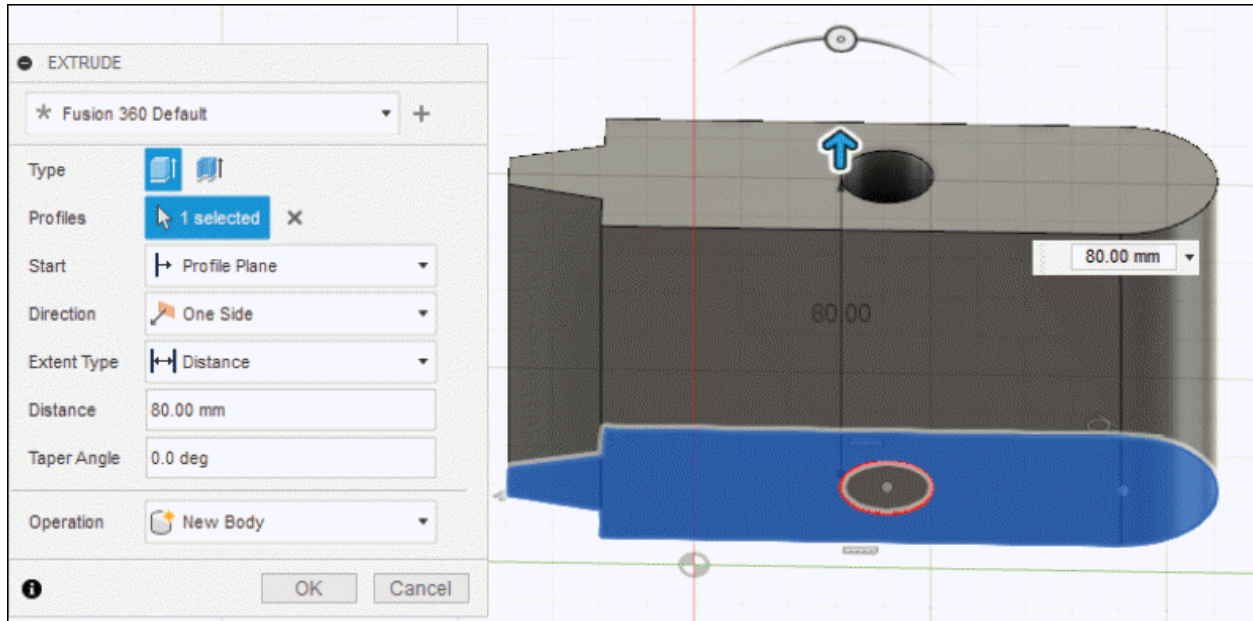

Figure-33. Extrude starting from profile plane
- Select **Profile Plane** option from **Start** drop-down, if you want to extrude the sketch starting from current sketching plane; refer to Figure-33.